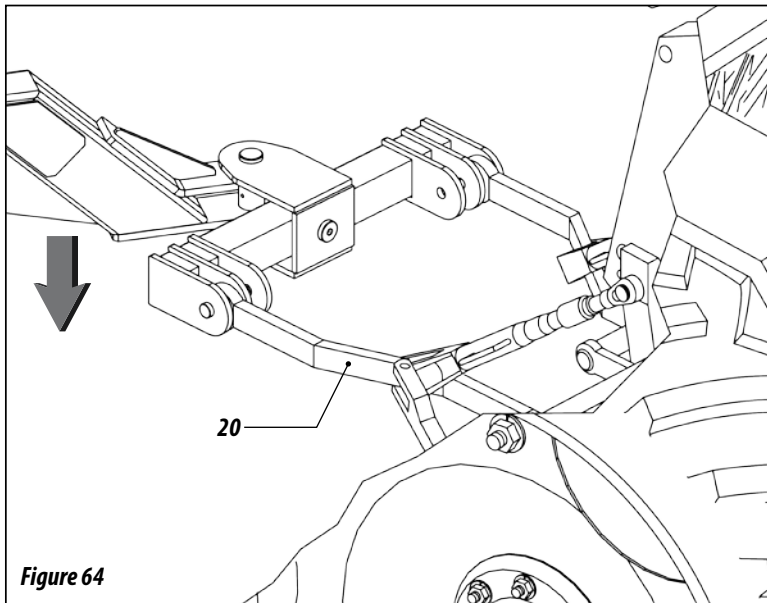

Figure 64
12- Lower the hydraulic arms of the tractor (20), figure 64.